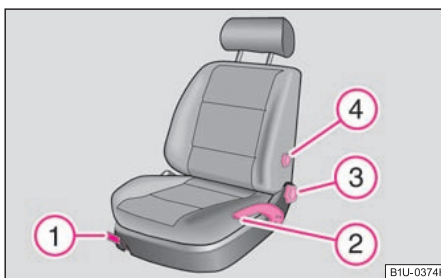

Fig. 59 Controls at seat
- Pull the lever ① ⇒ fig. 59 up and push the seat into the desired position.
- Release the lever ① and push the seat further until the lock is heard to engage.
- Relieve any pressure on the seat backrest (do not lean on it) and turn the handwheel ③ ⇒ page 60, fig. 59 to adjust the desired angle of the backrest.